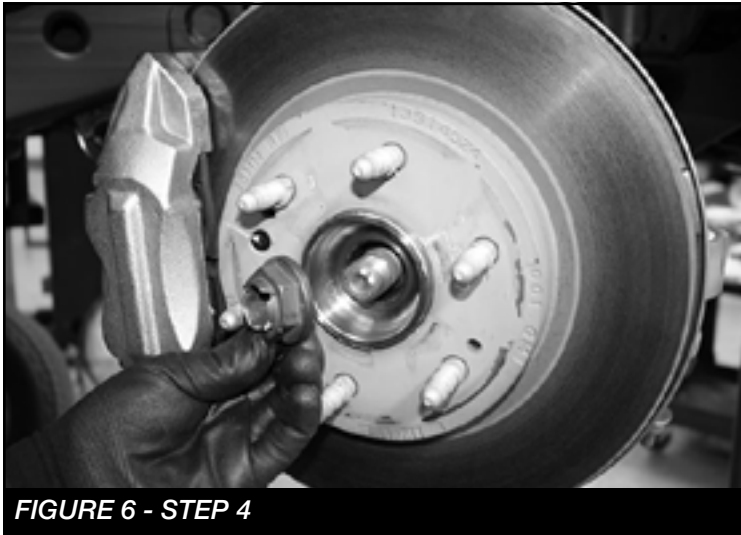

FIGURE 6 - STEP 4
4. Using a 36mm socket, remove and save the axle hub nut. **SEE FIGURE 6**